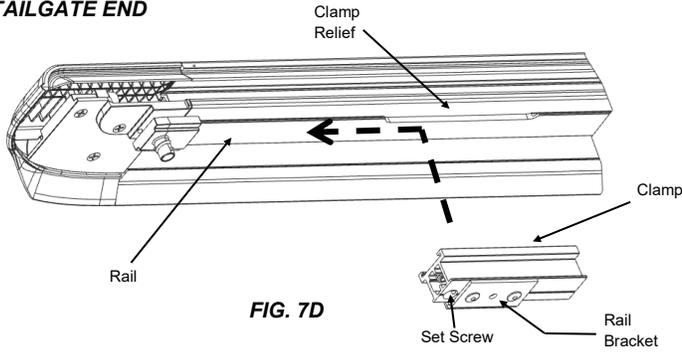

FIG. 7D
Slide the clamp extensions on the tailgate and cab end of each rail as pictured in Figure 7A-7E. Ensure that your tailgate end and cab end extensions are in the correct orientation (FIG 7D & 7E). Each clamp extension is labeled for front left (FL), front right (FR), back left (BL), and back right (BR) as shown in figure 7F. The extensions go on the corners shown in figure 7A.